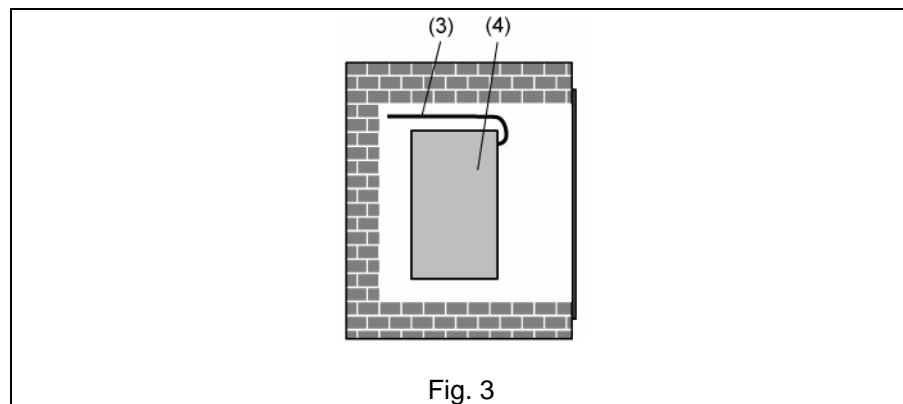

Fig. 3
If possible, stretch out the antenna (3) as shown (Fig. 3).
- Install the device in the mounting box so that the programming button and the LED are visible (Fig. 3).